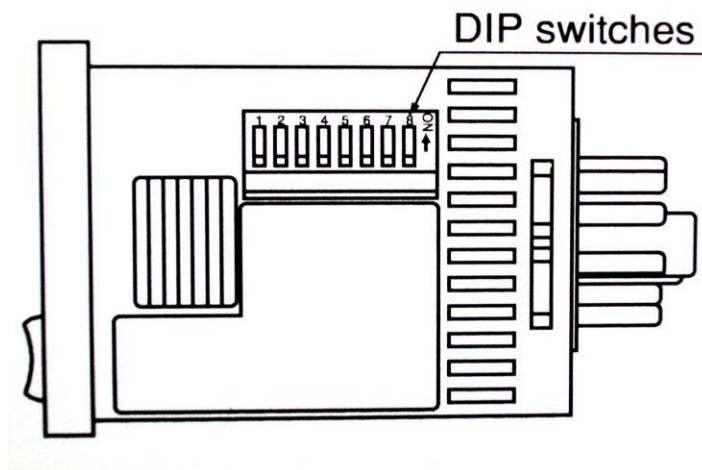

Figure 2. Location of DIP Switches
The LT4H-W digital timer has been factory set to provide the user with the optimum parameters for controlling the SPC8 under normal conditions. This section describes the factory preset operating parameters that should be appropriate for most user requirements. The timer has two independent time ranges for T1 (ON) and T2 (OFF); can be set to count up or down and an input signal width minimum. The later should be left as factory set in order to minimise spurious triggering of time periods or resets. These parameters can only be set via the DIP switches on the side of the timer. Access these by removing timer from the front panel. Always ensure power is disconnected from the SPC8 before changing DIP switch settings. See figure 2 below for DIP switch configuration.